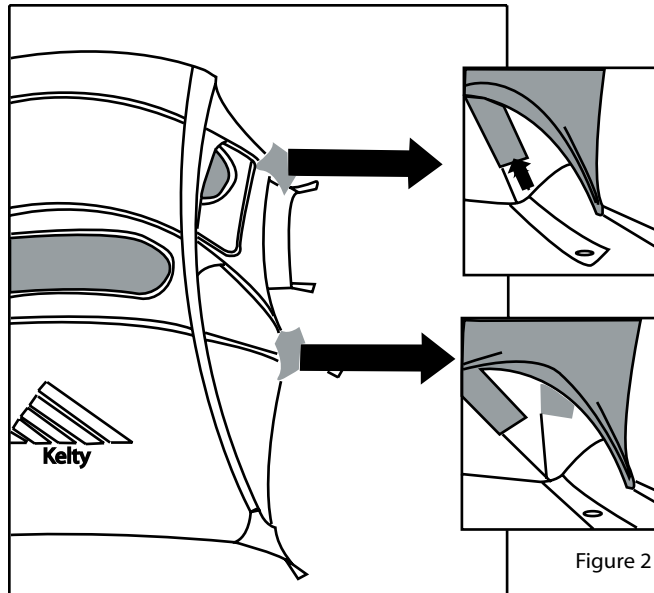

Figure 2
2. Spread the BaseCamp tent body on the ground (make sure the pole sleeves are facing up) and locate the ends of the three pole sleeves that run across the tent (Figure 2, inserts). **NOTE:** The pole sleeve ends can be found under the navy patches found on either side of the doors.